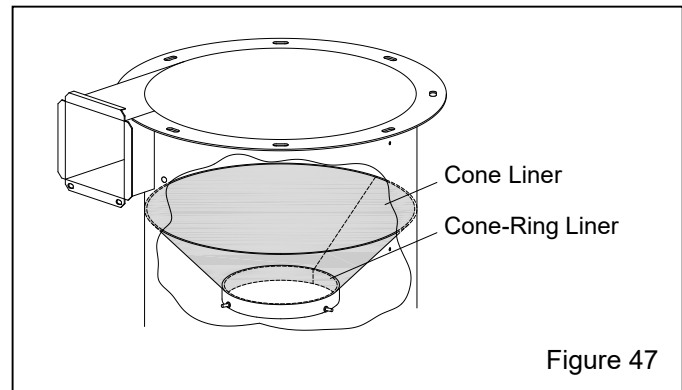

Figure 47
7.12.13 The cone liner and cone-ring liner, shown in Figure 47, are glued onto the inner cone. Pull off the liners to remove them.